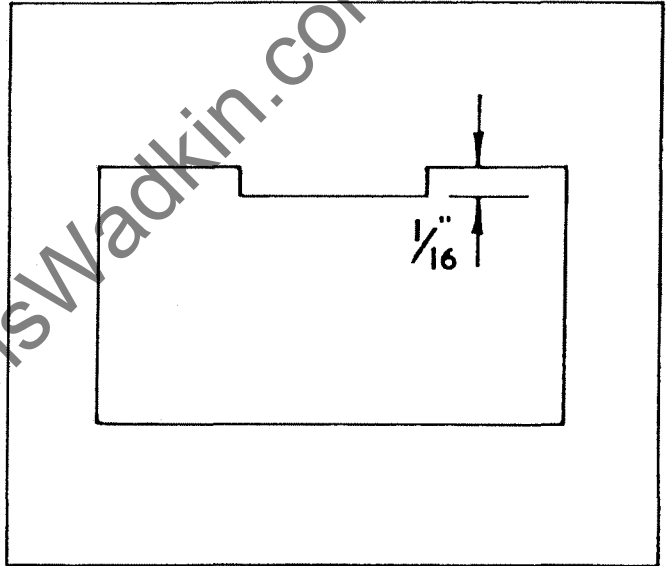

FIG. 16.
10. Always notch cutters for french spindles as shown in FIG.16. for the spindle locking bolt to locate the cutter.